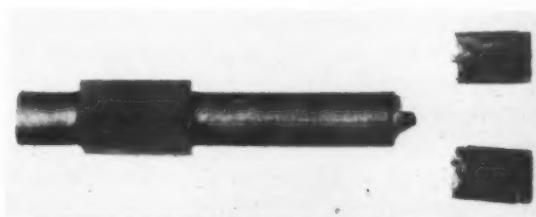

Fig. 3—High stress concentration originates at re-entrant corner
**SHAFT WITH WOODRUFF KEYWAY.** This shaft is typical of a large number of torsion-fatigue failures resulting from high stress concentration originating at the sharp re-entrant corner of the keyway. *Fig. 3* shows the main spindle which